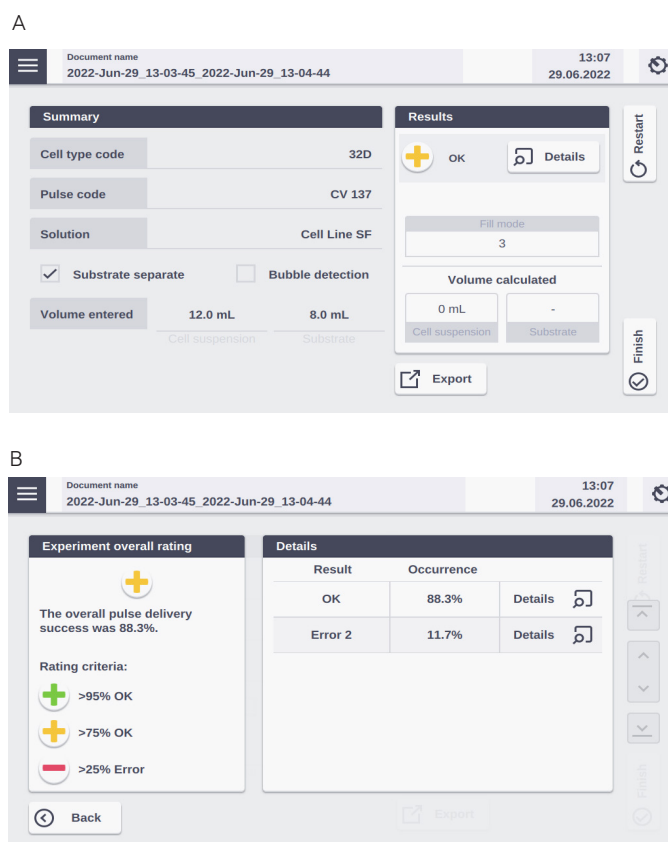

Figure 2.40: (A) Result screen. (B) Result details after tapping on the “Details” Button (Figure 2.32 A)
6. Once the required cycles to process the sample are completed, a Result screen summarizing the Nucleofection® Process will be displayed (Figure 2.40, A). Further details are displayed when pressing on “Details” (Figure 2.40 B).
- Yellow cross in case of few errors (Figure 2.40, A)
If errors occurred you can check for more details by pressing “Details”. The result details (Figure 2.40, B) will display the type of error and its’ percent occurrence in the processed volume. For additional information on the error, press “Details”.